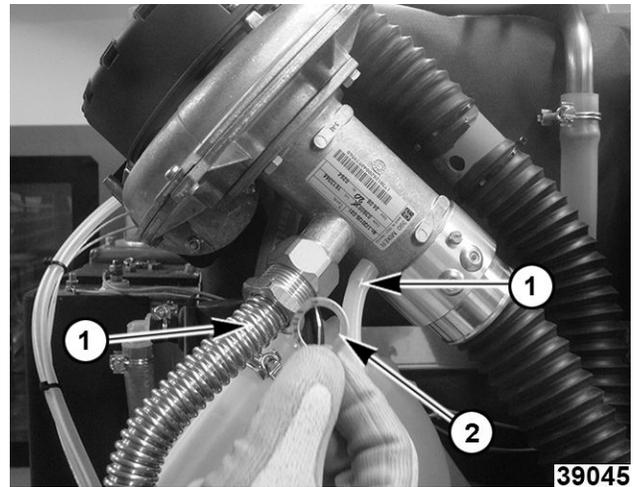

Fig. 105
NOTE: When disconnecting gas pipes, there will be a gasket (2, Fig. 105). Take care not to lose gasket or it may fall into an inaccessible area of the unit.
4. Disconnect gas piping and tubing to gas valves (1, Fig. 105).